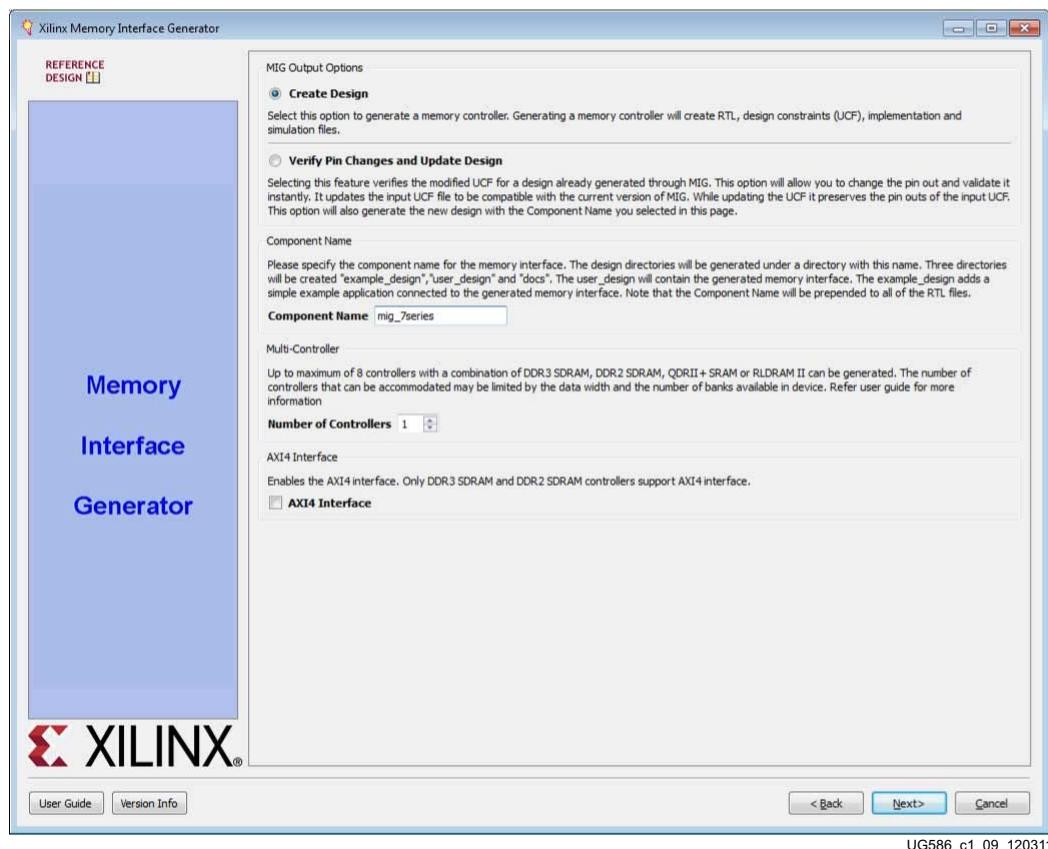

Figure 1-14: MIG Output Options
1. Select the **Create Design** to create a new Memory Controller design. Enter a component name in the Component Name field (Figure 1-14).
3. DDR2 and DDR3 SDRAM designs support the memory-mapped AXI4 interface. The AXI4 interface is implemented in Verilog only. If an AXI4 interface is required, select the language as "Verilog" in the Vivado Design Suite before invoking the MIG tool. If the AXI4 interface is not selected, the user interface (UI) is the primary interface.